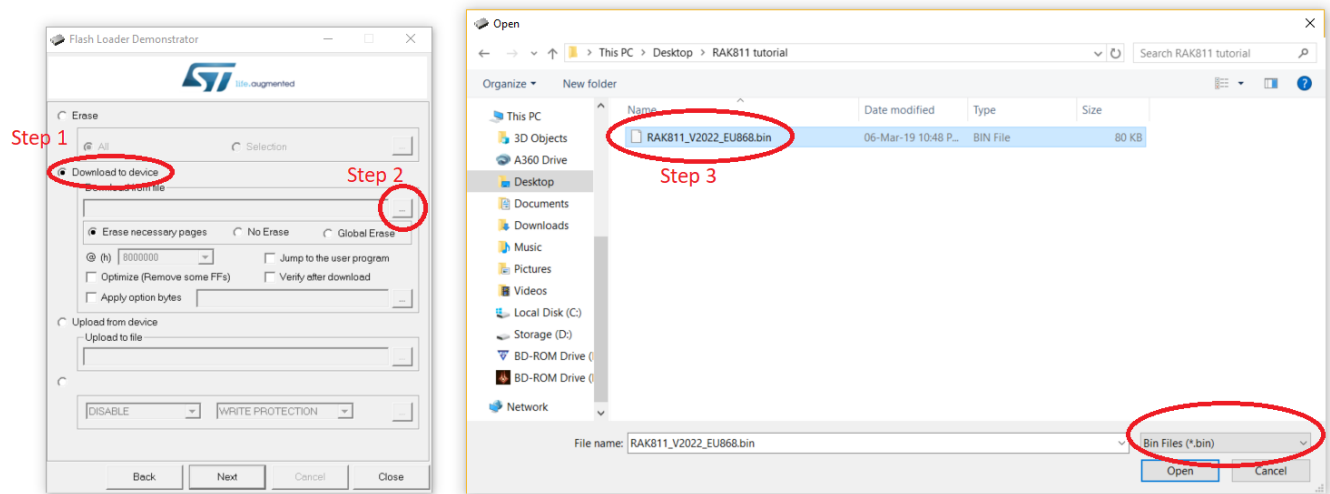

Figure 5 | Firmware file selection
- Now you need to select the *bin* file with the firmware you downloaded. Use the button circled in red in Figure 5 and navigate to the location of the file. Press Next